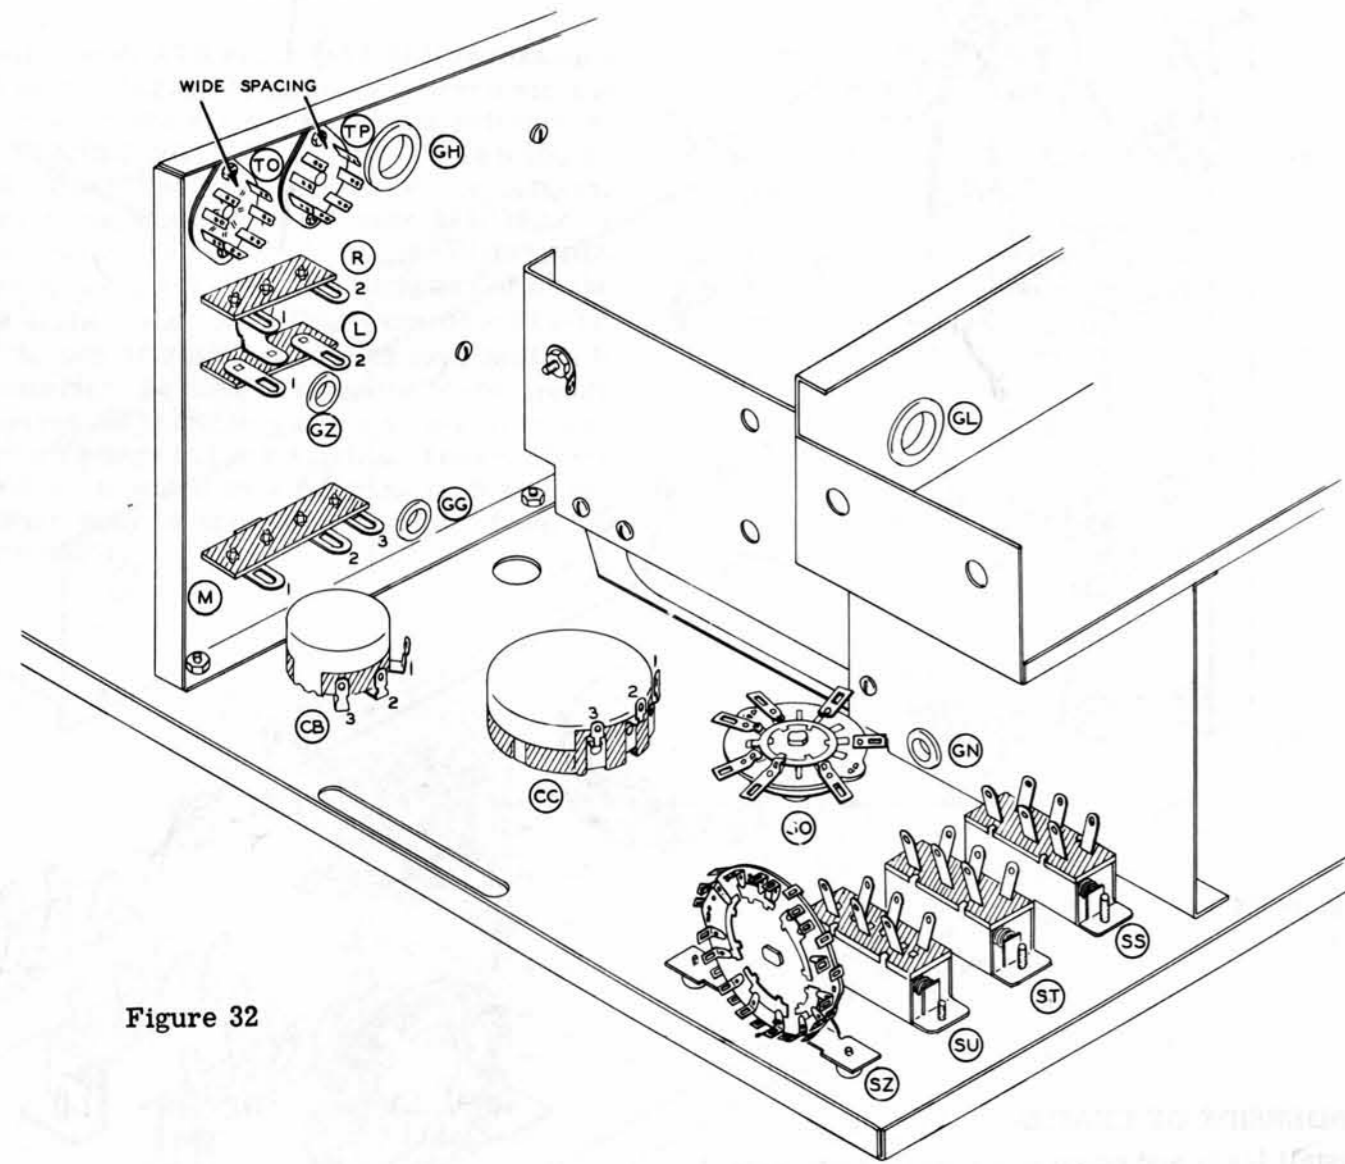

Figure 32
- () Connect a 250 Ω 1% resistor from SO10 (NS) to SO12 (NS).
- () Connect a 250 Ω 1% resistor from SO12 (S-2) to SO3 (NS).
- () Connect a 500 Ω 1% resistor from SO3 (S-2) to SO6 (NS).
- () Connect a 1 K Ω 1% resistor from SO6 (S-2) to SO1 (NS).
- () Connect a 4.7 K Ω resistor (yellow-violet-red) from SO1 (S-2) to SO8 (NS).
- () Mount the SIGNAL switch SO as shown in Figure 32, using control hardware.
Follow the steps outlined in Figure 33 for the mounting of those parts located on the chassis. Also, refer to Figure 32.